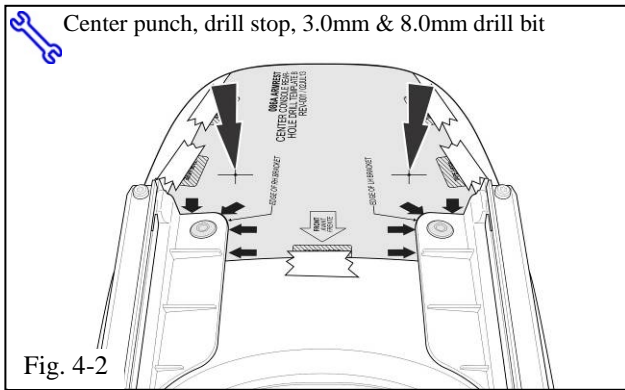

Fig. 4-2
- (c) Center punch the 2x hole locations indicated on the template (Fig. 4-2).
- (d) Drill the 2x center punch locations with a 3.0mm (1/8") drill bit (Fig. 4-2).